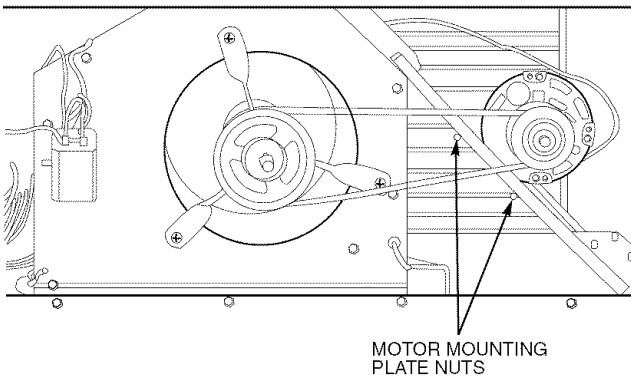

Fig. 45 — Belt-Drive Motor Mounting
2. Loosen belt by loosening fan motor mounting nuts. See Fig. 45.